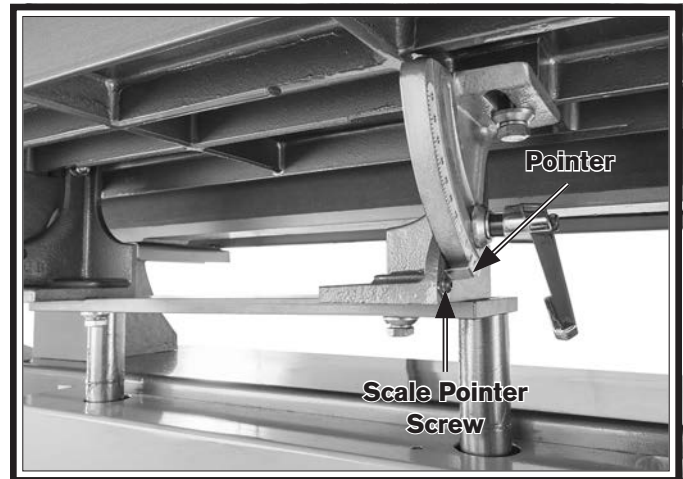

Figure 58. Tilt scale pointer components.
5. Loosen scale pointer button head cap screw (see **Figure 58**), adjust pointer to 0°, then tighten screw.